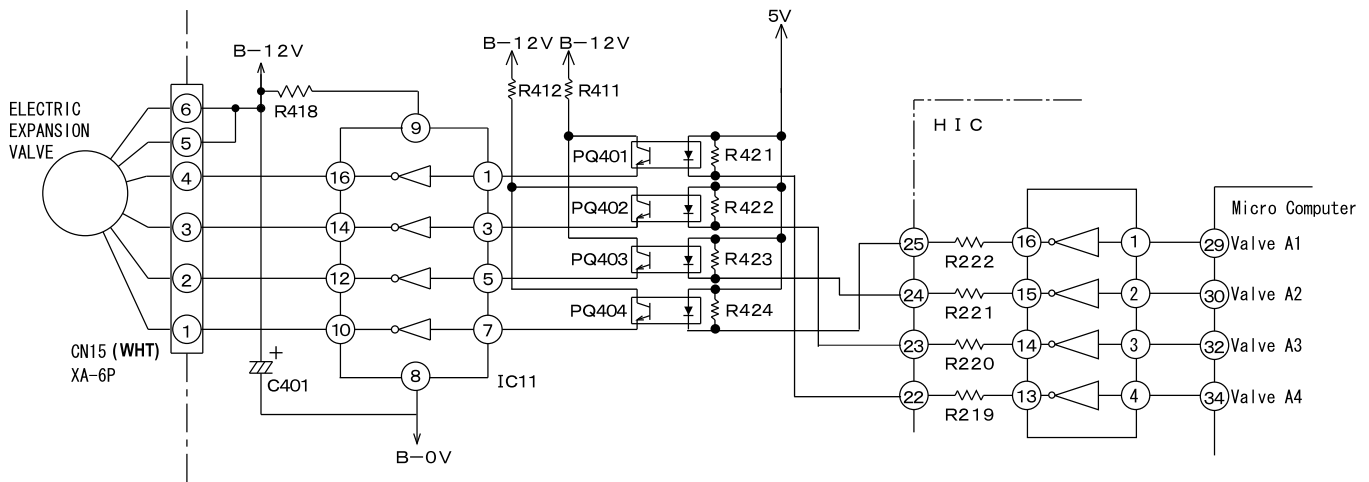

Fig.5-1
- \* Fig.5-1 shows logic waveform when expansion valve is operating.